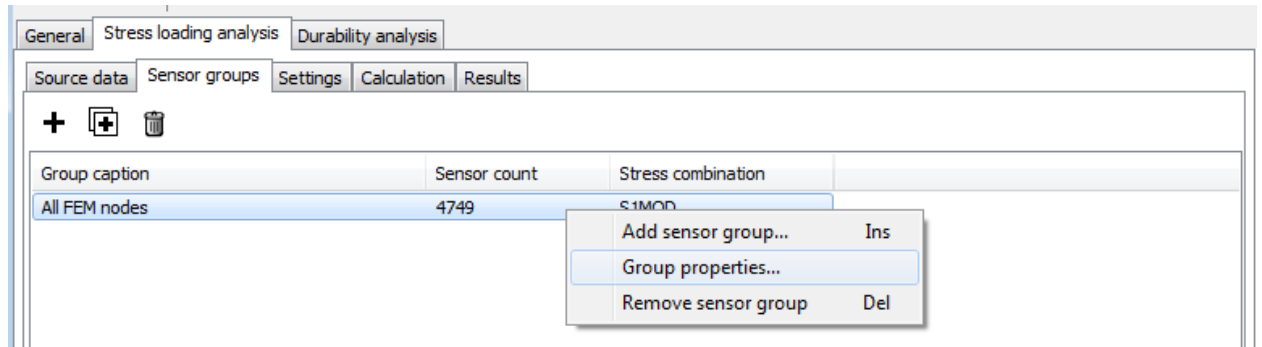

Figure 2.11. Sensor group All FEM nodes initialization
1. Select the **Stress loading analysis | Sensor groups**. Node group **All FEM nodes** was created by default, see Figure 2.11.
2. Double click on the **All FEM nodes** caption in the list or select the **Group properties...** item of the group popup menu, see Figure 2.11.